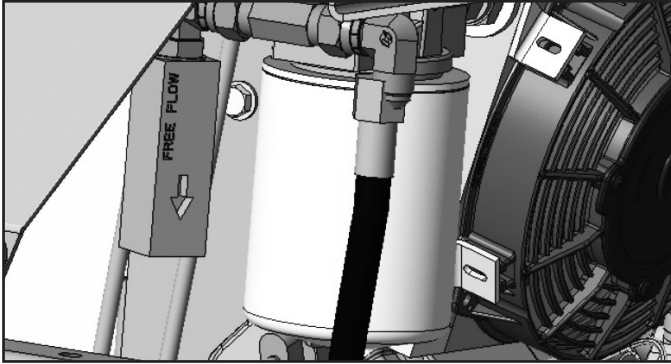

Figure 43: Hydraulic filter location
4. Remove rear tires with a ¾” socket and loosen lower motor hose on each side as shown in **Figure 43** with a 7/8” wrench. Route hose to an appropriate catch pan.
NOTE: Filter must be replaced with same size and type (10 micron) or warranty is void. See **Figure 43**.